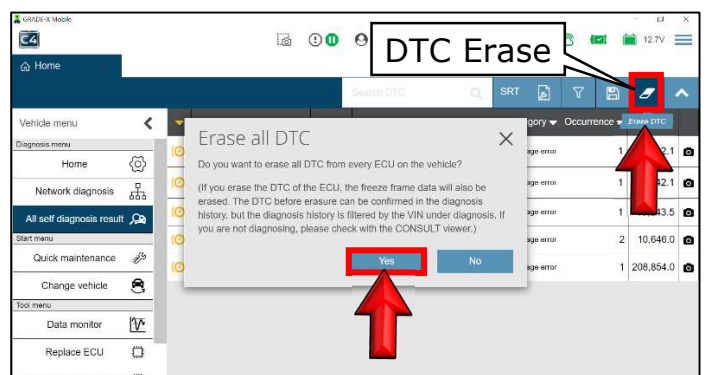

Figure 21
22. Select the erase diagnosis DTC icon, and select **Yes** to erase DTC's. (Figure 21)